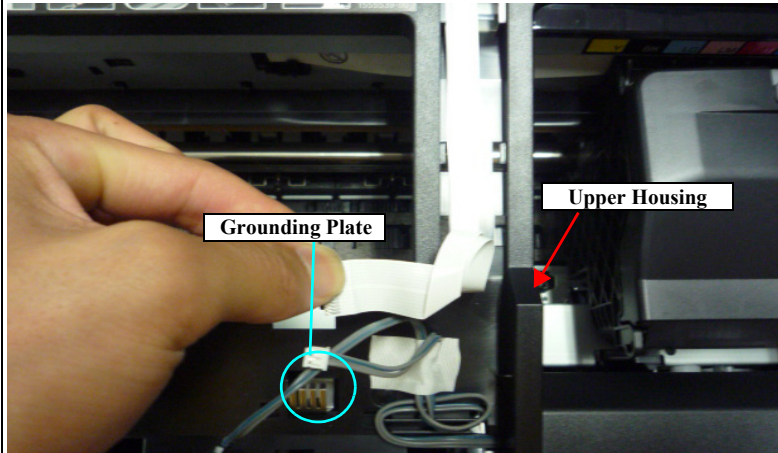

Figure 8-16. Routing the Panel FFC
- Install the Upper Housing so that the Grounding Plate is not caught by the cutout of the Upper Housing shown in *Figure 8-16*